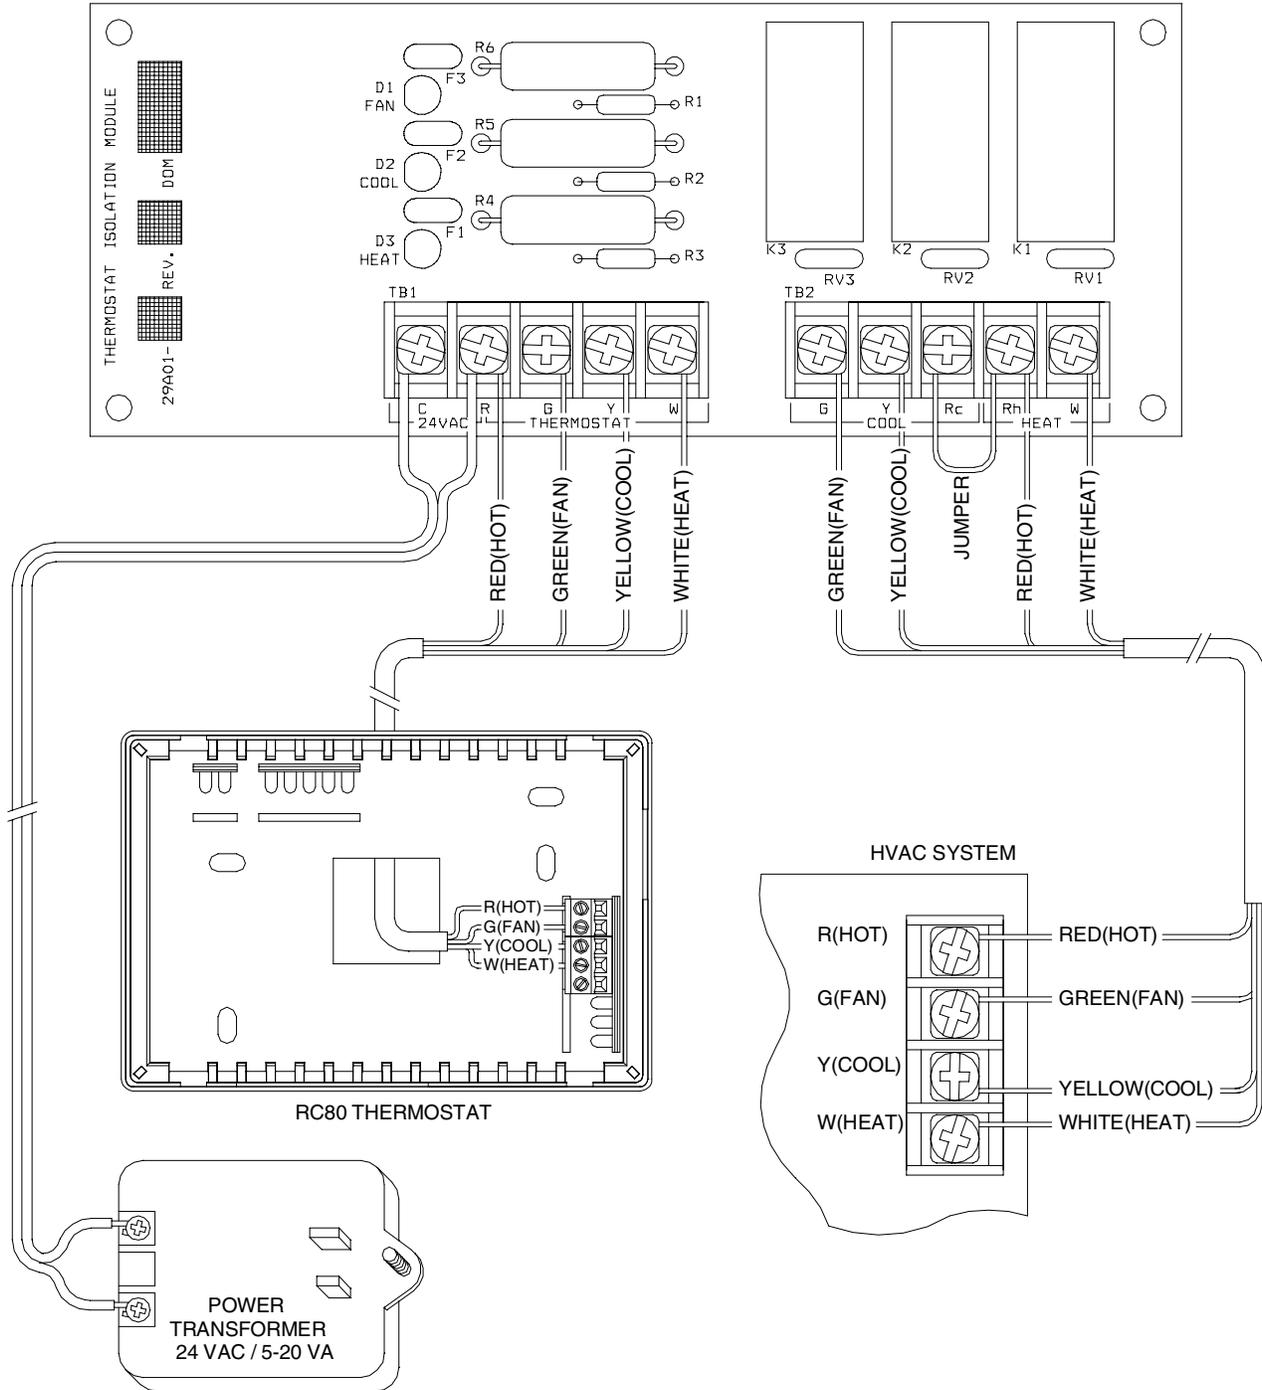
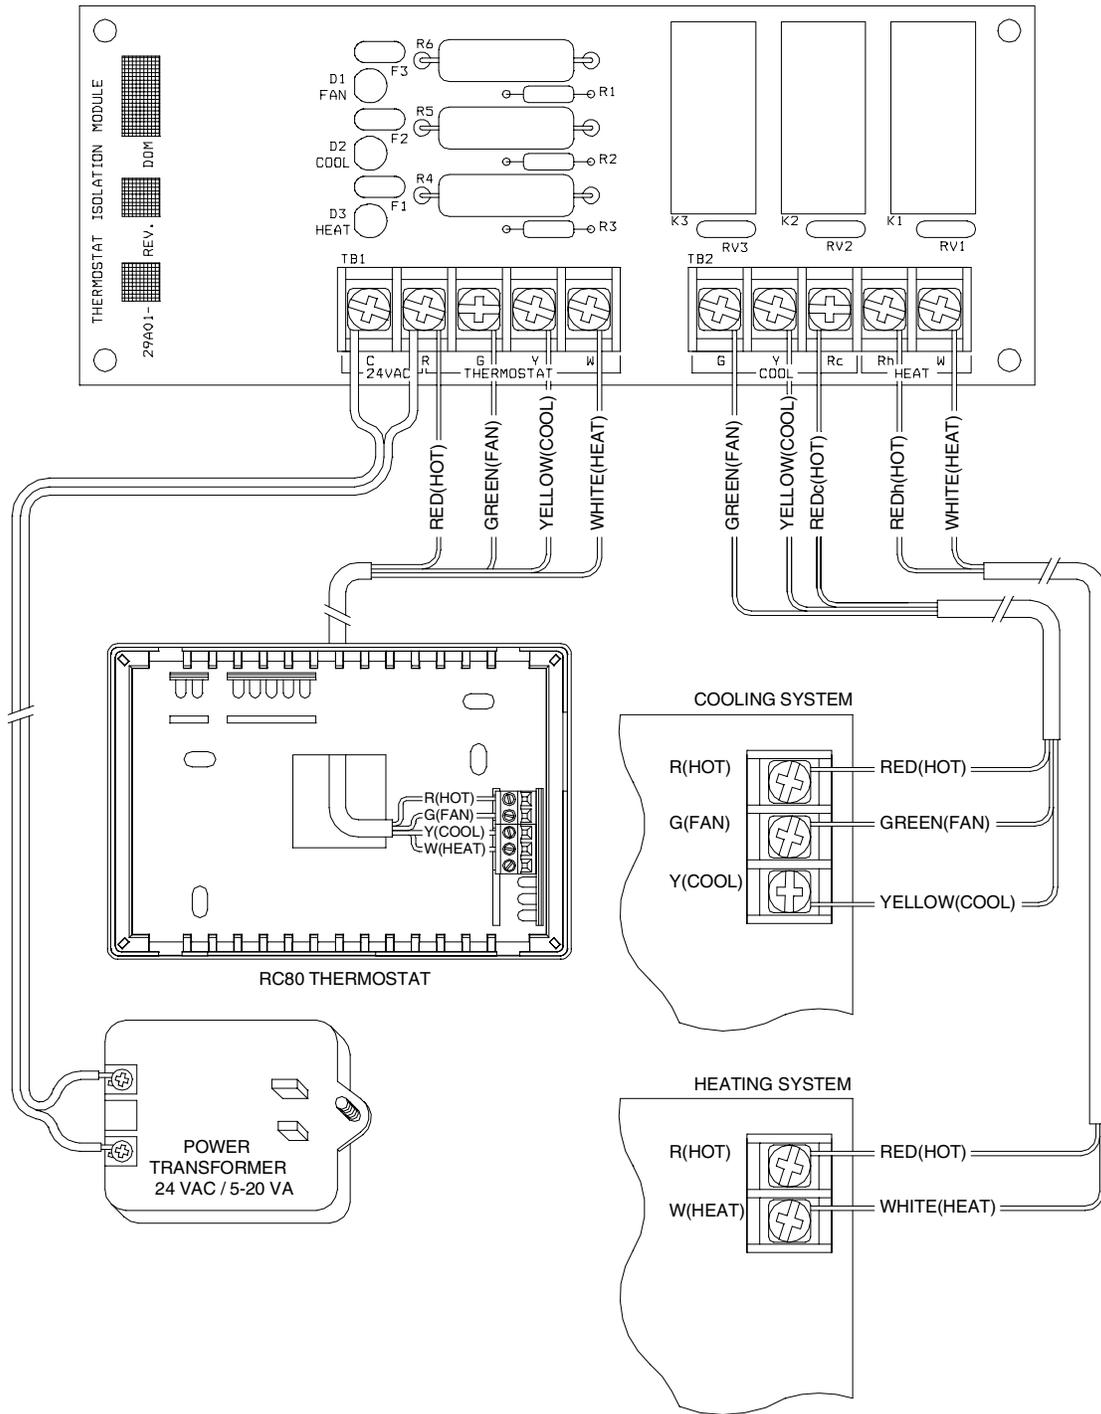

Figure 2 - Connections to Isolate Thermostat from HVAC System
Figure 3 - Connections to Heating and Cooling Systems with Separate Transformers
6. Wire the Model 29A00 according to Figure 2 or Figure 3 depending on the type of HVAC System.